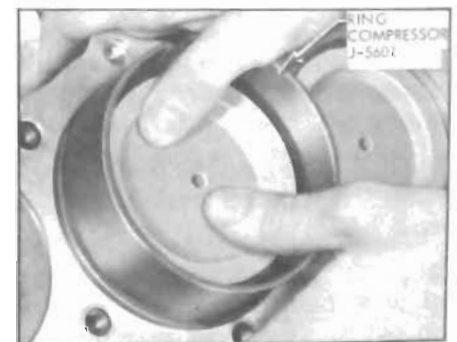

Figure 2-41—Installing Piston With Compressor Installed
14. Lubricate the piston and rings and install in bore by compressing the rings either with a "wrap around" compressor or a split ring type such as shown in Figure 2-41.